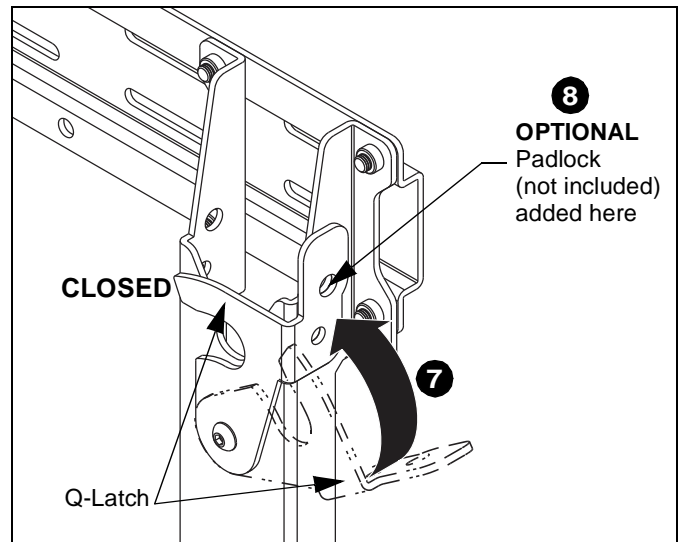

Figure 6
7. Move both Q-Latches to **CLOSED** position. (See Figure 6)
8. **OPTIONAL:** Lock Q-latches in place, if desired. (See Figure 6)